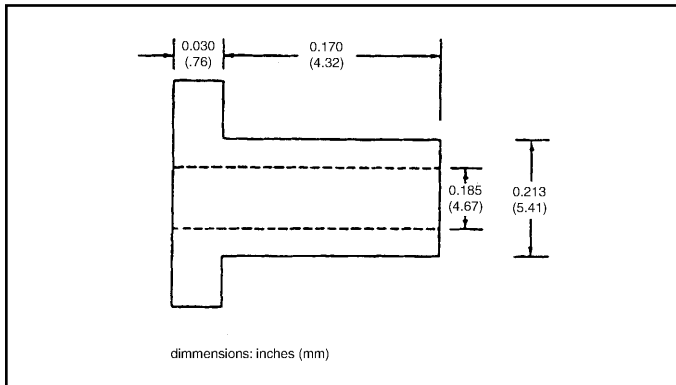

Figure 6. Installation fixture avoids backside finger damage during K102F installation.
- Step 3.** Insert the installation fixture shown in Figure 6.